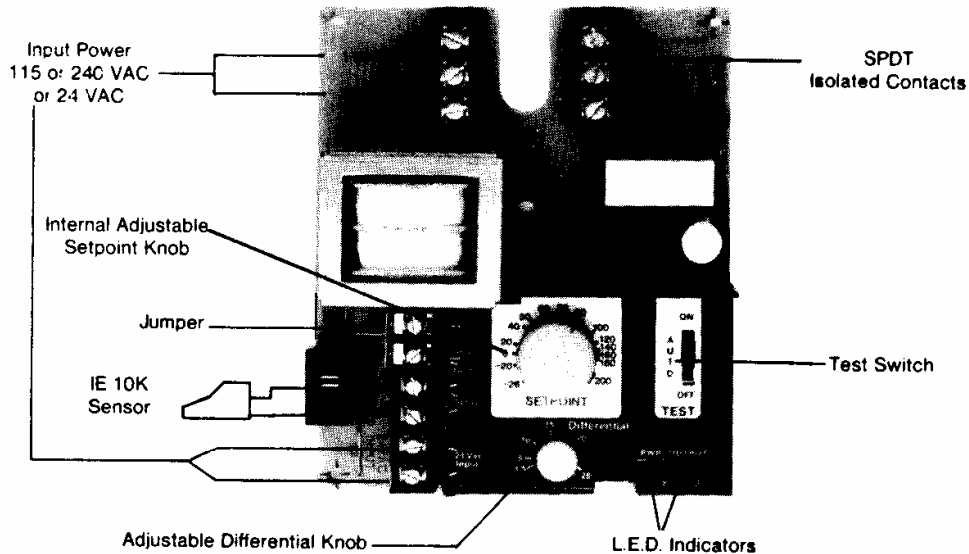

Fig. 1 SP-30
To access this knob, disconnect power to the control and remove entire cover (see Fig. 1).
- 2. Turn on AC power at circuit breaker panel. Verify that "PWR" indicator is on (see Fig. 1).